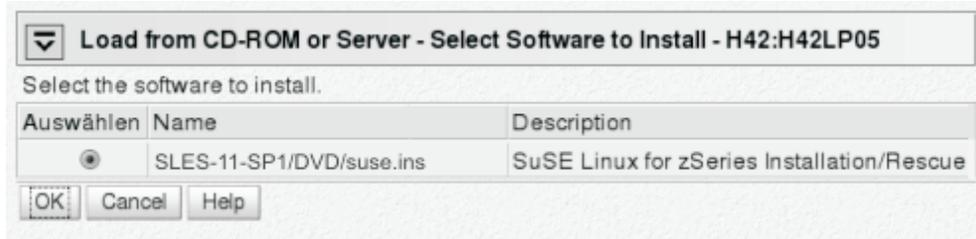

Figure 69. Select the software to install panel
5. Click **Continue** to display the “Select the software to install” panel (Figure 69).